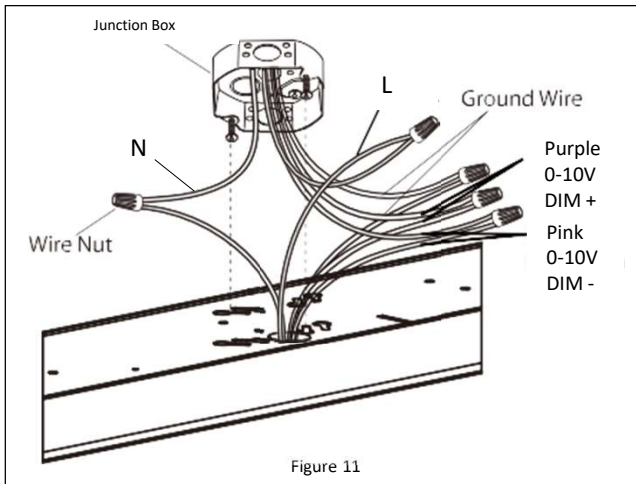

Figure 11
7. Make the wire connections Black to Line, White to Neutral and Green to Ground. Use the supplied wire nuts to secure the connections. **See Figure 11.**
Reportez-vous à la Figure 11.